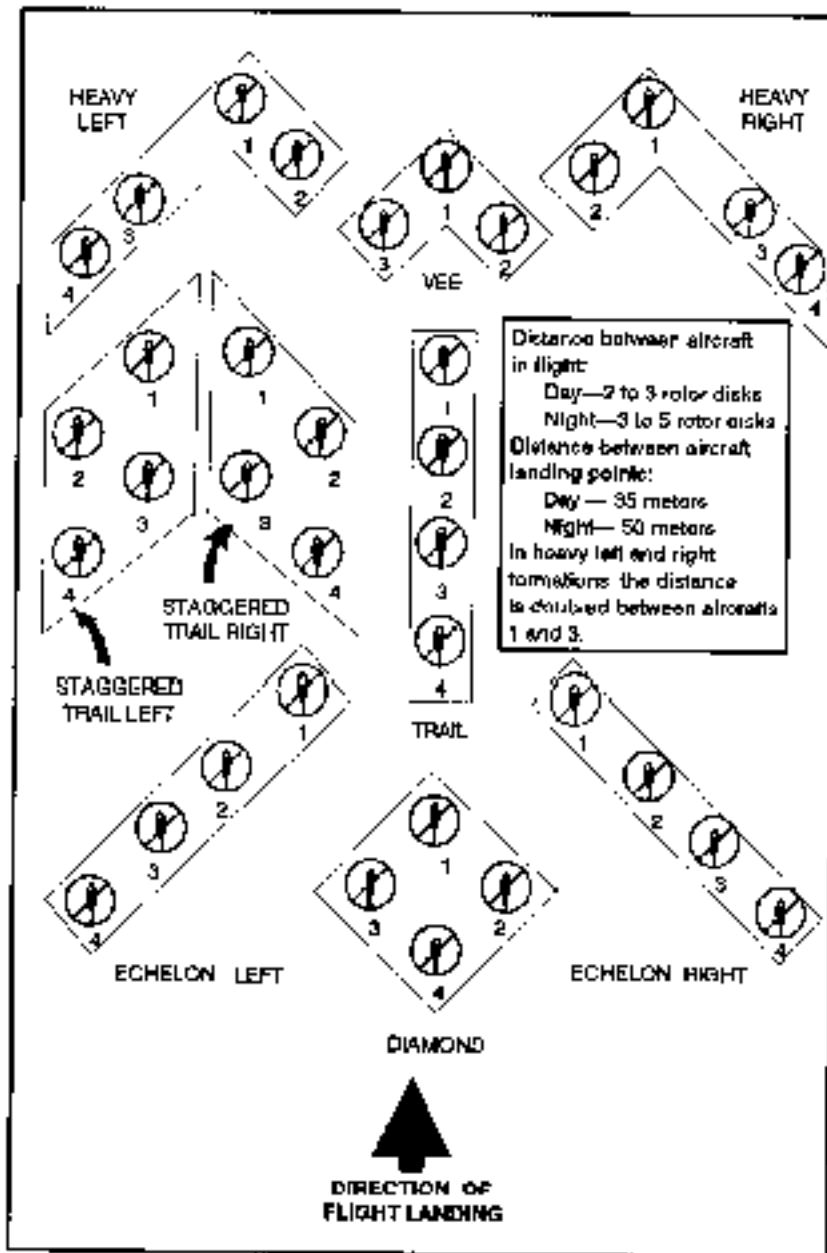

Figure 4-1. Standard flight and landing formations.
- b. **Landing Formations.** When they can, helicopters should land in the same formation in which they are flying. However, planned formations may require modification for helicopters to land in restrictive areas. If a modification in flight formation is required for landing, use the change requiring the least shift in the formation (Figure 4-1).